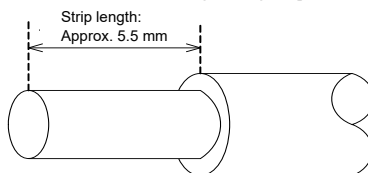

Fig. 5 Sheath Strip Length
2. Strip the end of the wire (as shown in Fig. 5) and tighten the terminal screws firmly.